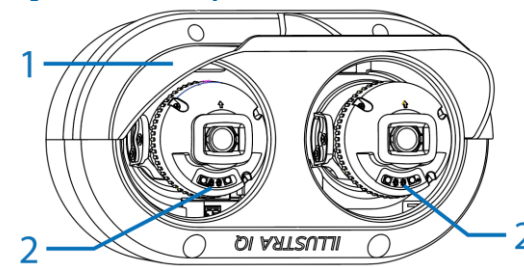

Figure 12
Before you attach the sunshield cover, ensure that the LED's (2) (Figure 12) are in the opposite direction to the sunshield cover (1) (Figure 12).